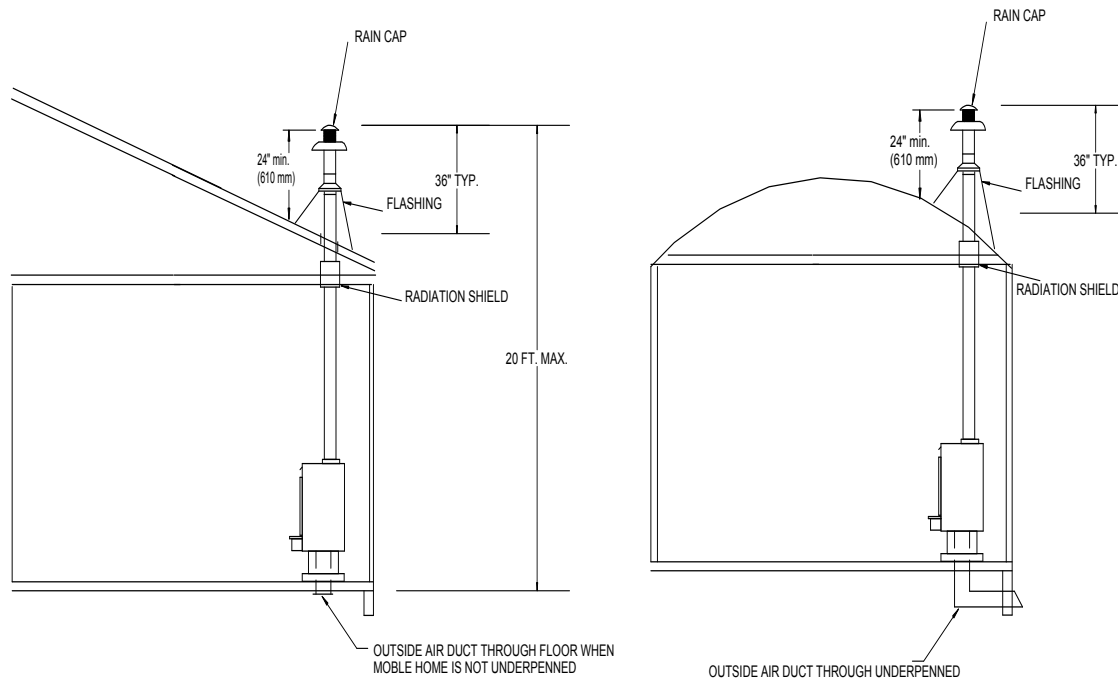

Figure 12A
15. Secure the outside air duct to the floor using the four (4) #10x1 screws provided. (See Figure 12A.)
- (b) Chimney pipe height is at least 2 feet higher than any part of the roof within 10 feet of the chimney. (See Figure 12A. Page 27.)